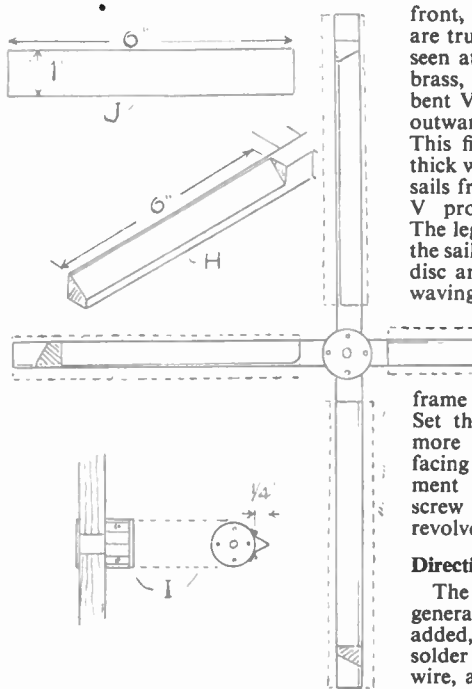

Fig. 5
Fig. 5 shows part of the sails with relative details. The frame is composed of two 14in. lengths of $\frac{1}{4}$ in. square section stripwood, fixed together at right angles with a halved joint. A portion of each arm is bevelled as at (H), the angle being 30 degrees. Note that the bevels all face in a clockwise direction.